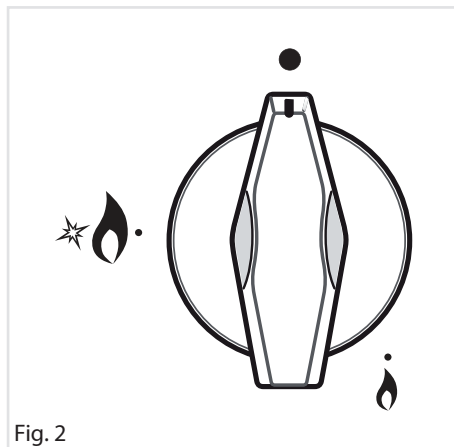
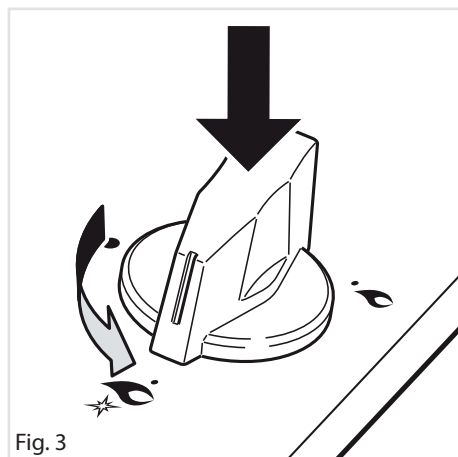

Fig. 2
Fig. 3
Gas flow to the burners is adjusted by turning the knobs (illustrated in fig. 2) which control the safety valves.
1. Press in the corresponding knob and turn counter-clockwise (fig. 3) to the full flame position marked by the "✱" symbol (fig. 2); hold the knob in until the flame has been lit.